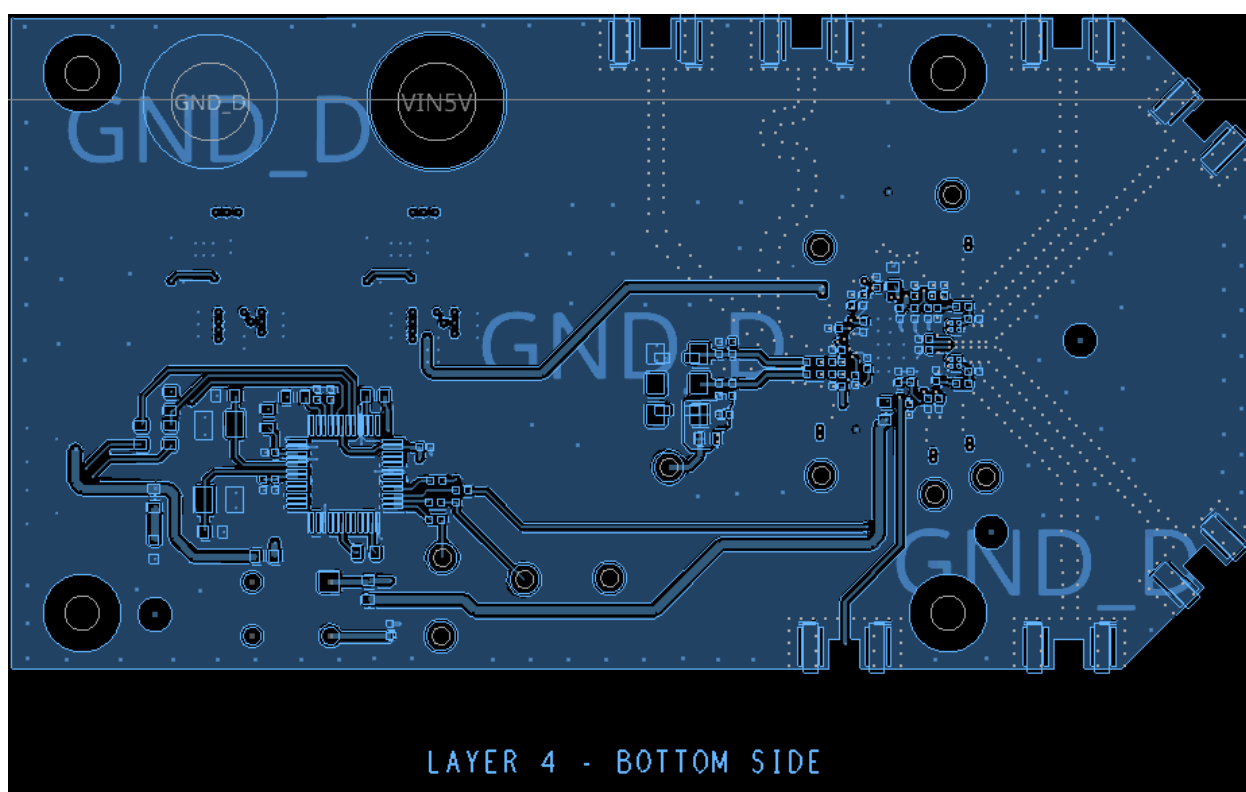

Figure 18. Evaluation Board – Bottom Layer
- b. Charge pump current can be used to vary the loop bandwidth, hence optimize phase noise and/or integrated RMS jitter. Set Pmos = 8.5mA, Nmos = 8.5mA, Bleeder = OFF. With the Bleeder off, the noise from the modulator will degrade phase noise performance as shown in Figure 18.